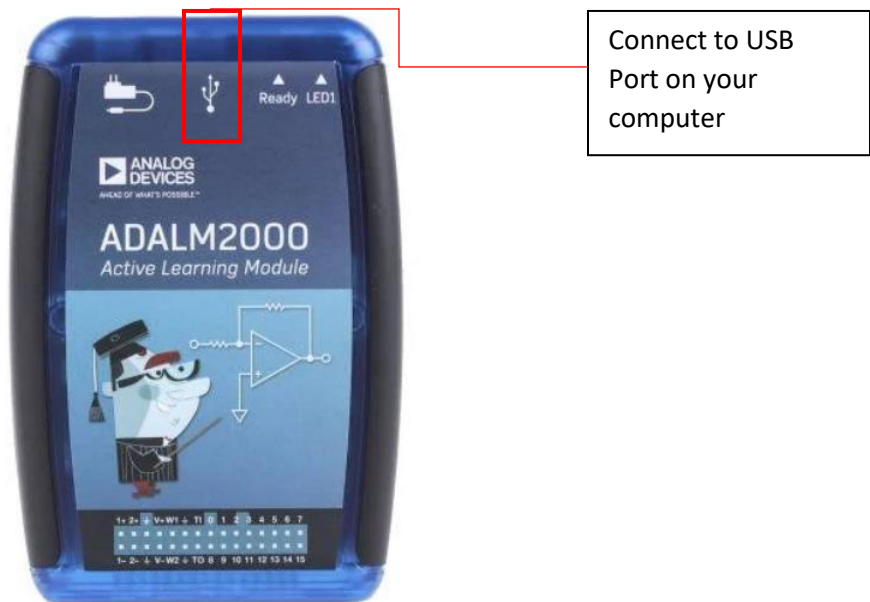

Fig. 6. ADALM2000 (M2K)
3. Connect your ADALM2000 via USB port shown in Figure 6 below.